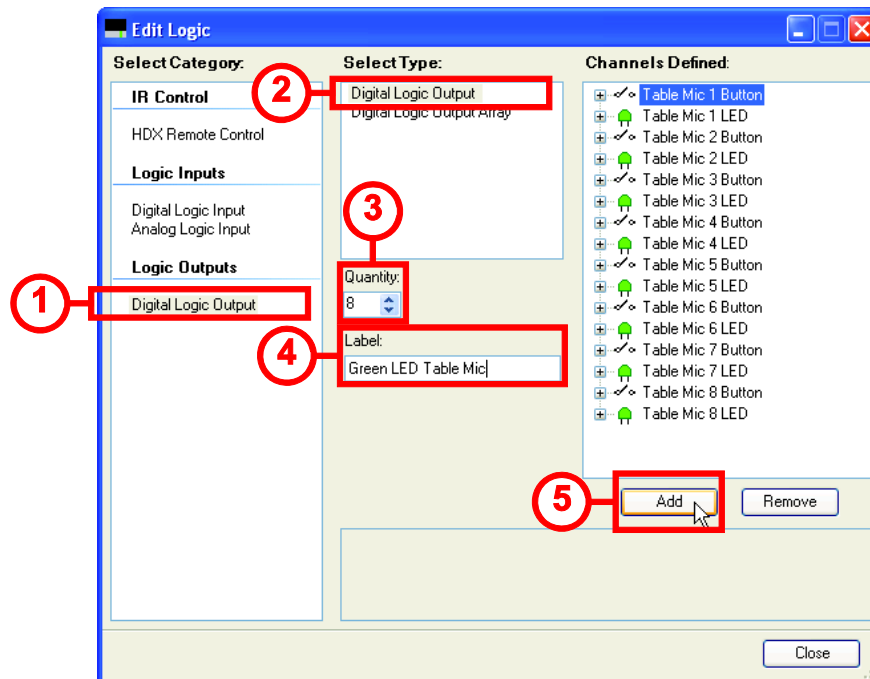
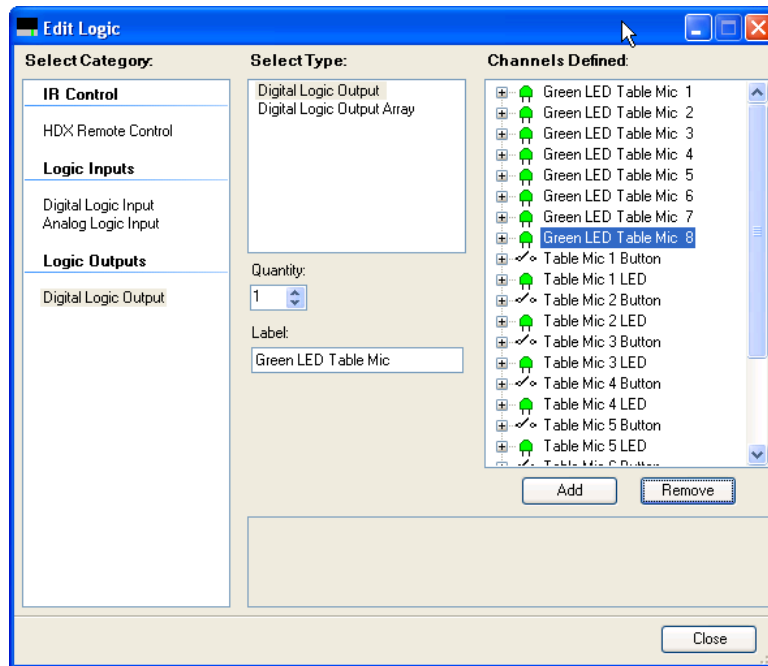

Figure 8. Adding the logic outputs for the green LEDs.
Figure 9. Resulting logic definitions after the green LED logic outputs have been added.
The logic page within SoundStructure studio makes it easy to add eight logic output pins starting with clicking the Edit Logic button. As shown in Figure 8, select Digital Logic Output (1), and then Digital Logic Output (2), adjust the quantity to 8 (3), select a meaningful label (4), and select Add (5). Clicking Add will define the new logic output pins as shown in Figure 9.